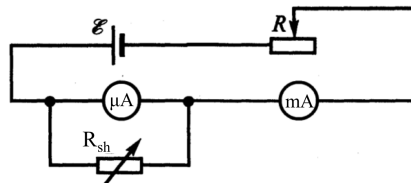

Figure 4:
The diagram of the second setup to test the accuracy of selection of the shunt resistor is presented in Fig. 4. The test device (μA) is connected to the resistance box that is used as a shunt resistor R_{shunt} . In this circuit, a multimeter is implemented to measure the total current. The magnitude of the current is adjusted by the variable resistor R .
Draw a circuit diagram (Fig. 4). Write down and derive the formula for calculating R_{sh} , $n_{calc} = I_{given}/I_{max}^{instr}$, $n_{exp} = I_{meas}^{new}/I_{meas}^{instr}$, deviation of the experimental value of n from the calculated value $\delta n = n_{exp} - n_{calc}$ and $\varepsilon_n = \delta n/n_{calc}$ (in %) with the description of all symbols. Prepare the Table 2 for your measurement results.
- b. Assemble the experimental circuit (in Fig. 4). Connect the power supply, the variable resistor, the tested microammeter and multimeter in series. Connect the multimeter in parallel to the resistance box acting as a shunt. Set switches of the resistance box at position of R_{shunt} . Move the wiper of the variable resistance to the position of its maximum resistance.